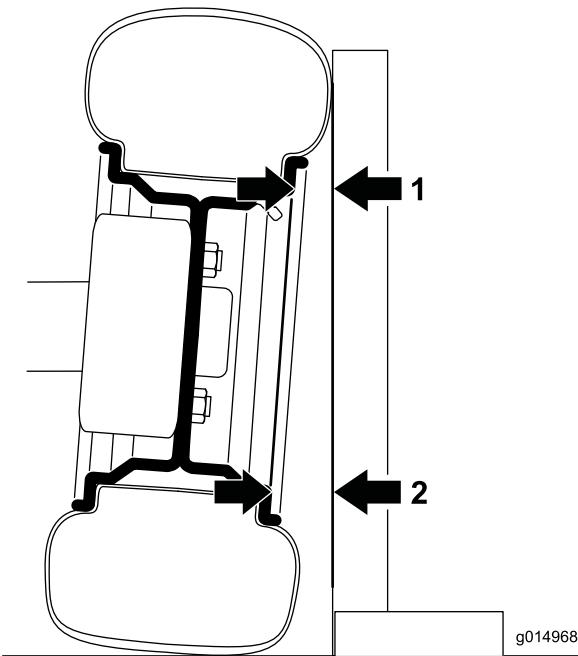

Figure 42
- To check the camber, place a 90 degree square on the ground with the vertical edge touching the face of the tire (Figure 42).
2. Measure from the same part of the rim on the top and bottom of the tire to the square (Figure 42).